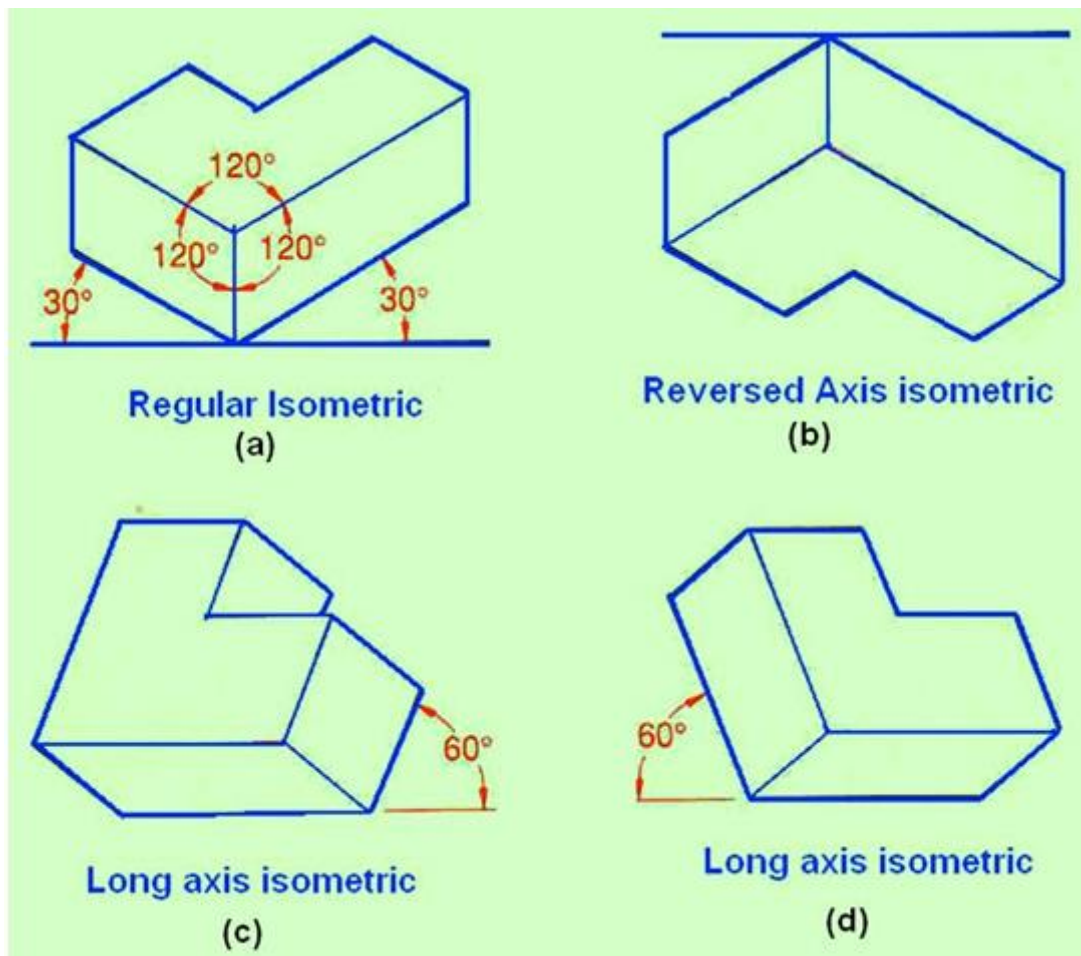

**Figure 9. illustrates the construction of an isometric scale.**
- As shown in figure 9, isometric scale is produced by positioning a regular scale at 45 ° to the horizontal and projecting lines vertically to a 30° line.